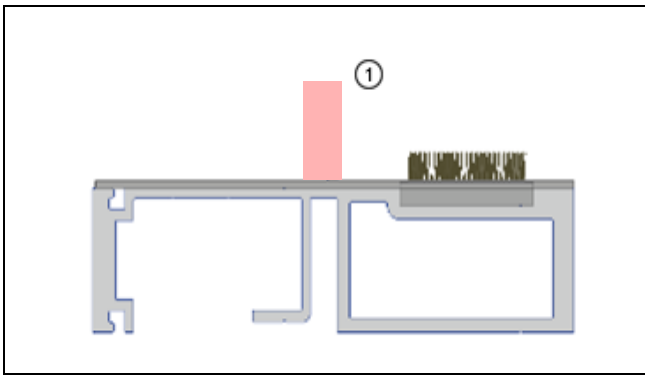

Figure 6
2. For doors with Inswing and ADA sills, apply sealant to the sill end of the jambs. See Figure 6.